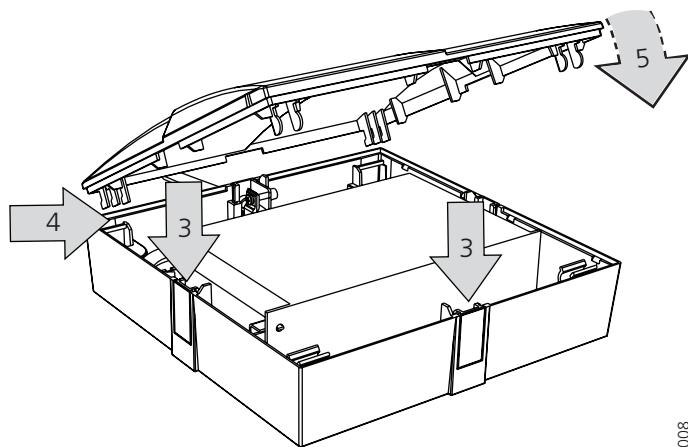

Figure 8. Mounting of rectangular covers and replacing the covers (BPC1-AAA).
- 4 Mount rectangular covers (which are provided in the parts bag) at the openings where there are no adjacent modules (3), see figure 8 below.
- 5 Fasten the cover's angled hooks on the holders (4).
- 6 Snap on the cover (5).
- 2 Mount the covers, see figure 8 on page 7.